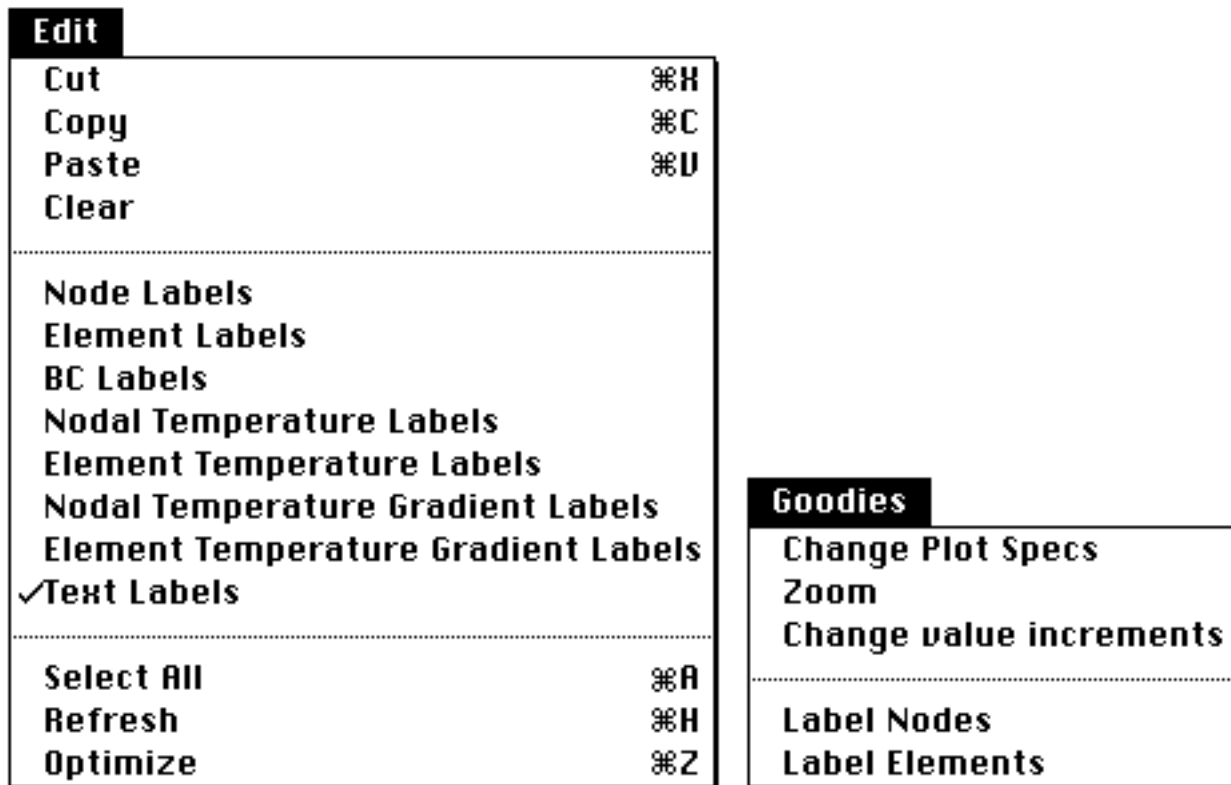

Fig 3.63 Plot menus, Part 2
- Select Label Nodes from the Goodies menu (Fig 3.63)
- Select Zoom (Fig 3.63) on the Goodies menu.